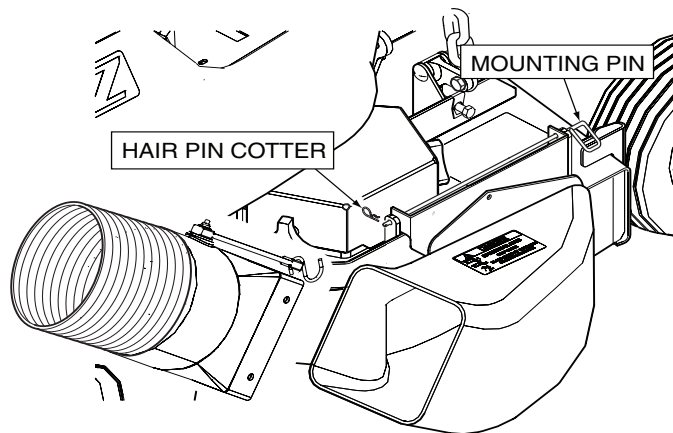

Figure 3-1. Removing the Discharge Boot
1. Remove the rubber strap holding the adapter to the blower assembly and the large quick pin securing the blower to the discharge mounting bracket. See Figure 3-1.
2. Remove the mounting pin and large hair pin securing the discharge boot assembly to the cutter deck and remove the discharge boot assembly. See Figure 3-1.